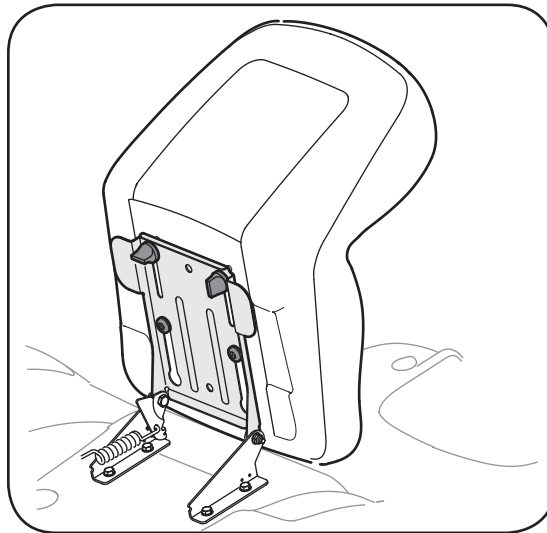

Figure 4
1. Position the shoulder screws (found on the base of the seat) inside the slot openings in the seat pivot bracket. Figure 4.
3. Select desired position for the seat, and secure with the two knobs removed earlier. See Figure 4.